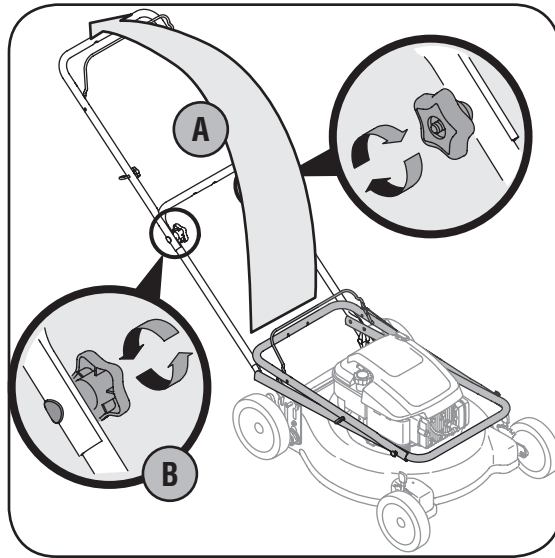

Figure 3-1: Unfold handle and tighten hardware.
- a. Pull up and back on upper handle as shown in Figure 3-1. Make certain the lower handle is seated securely into the handle mounting brackets. Do not crimp cable while lifting the handle up.
- b. Tighten star knobs securing upper handle to lower handle. See Figure 3-1. Make sure that each carriage bolt is seated properly in the handle.